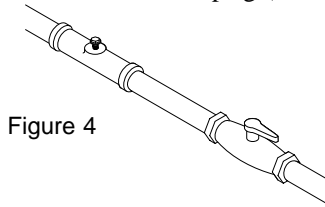

Figure 4
3. The gas supply line **MUST** have a shut-off valve preferably within six feet of the dryer (Figure 4).
4. A 1/8 inch NPT plugged tapping, accessible for test gauge connection, must be installed immediately upstream of the gas supply connection. The dryer and its individual shut-off valve must be disconnected from the gas supply piping system during any pressure testing (Figure 4) of that system at test pressures in excess 1/2 psig (3.45 kPa). The dryer must be isolated from the gas supply piping system by closing its individual manual shutoff valve during any pressure testing of the gas supply piping system at test pressures equal to or less than 1/2 psig (3.45 kPa).